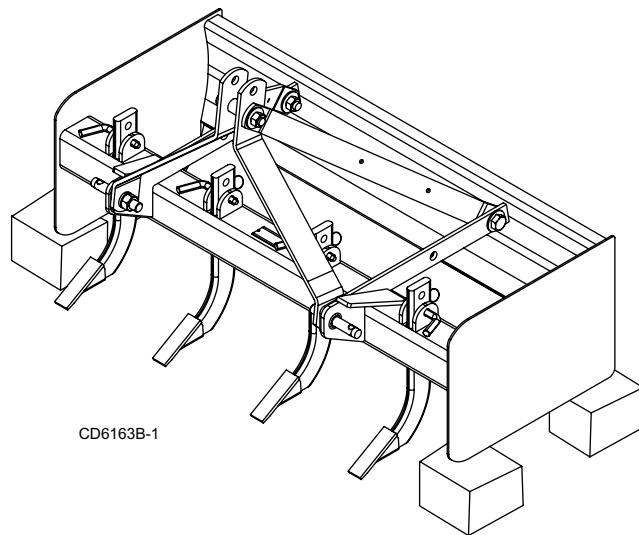

Figure 4. Box Scraper Blocked Up
- Block equipment securely for storage (see Figure 4).
1. Place two 4" x 4" (10 x 10 cm) blocks under each side frame of the box scraper as shown in Figure 4.
1. Place two 4" x 4" (10 x 10 cm) blocks under each side-frame of the box scraper (see Figure 4).
1. Block up machine by placing two 4" x 4" (10 x 10 cm) blocks under each side-frame of the box scraper (see Figure 4).